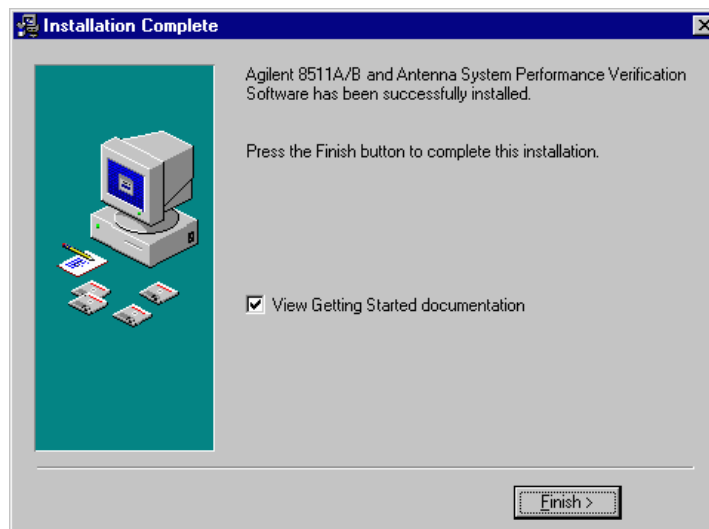

Figure 9 *Installation Complete Window*
14. The **Installation Complete Window** is displayed. Click **Finish >** to continue. See Figure 9.